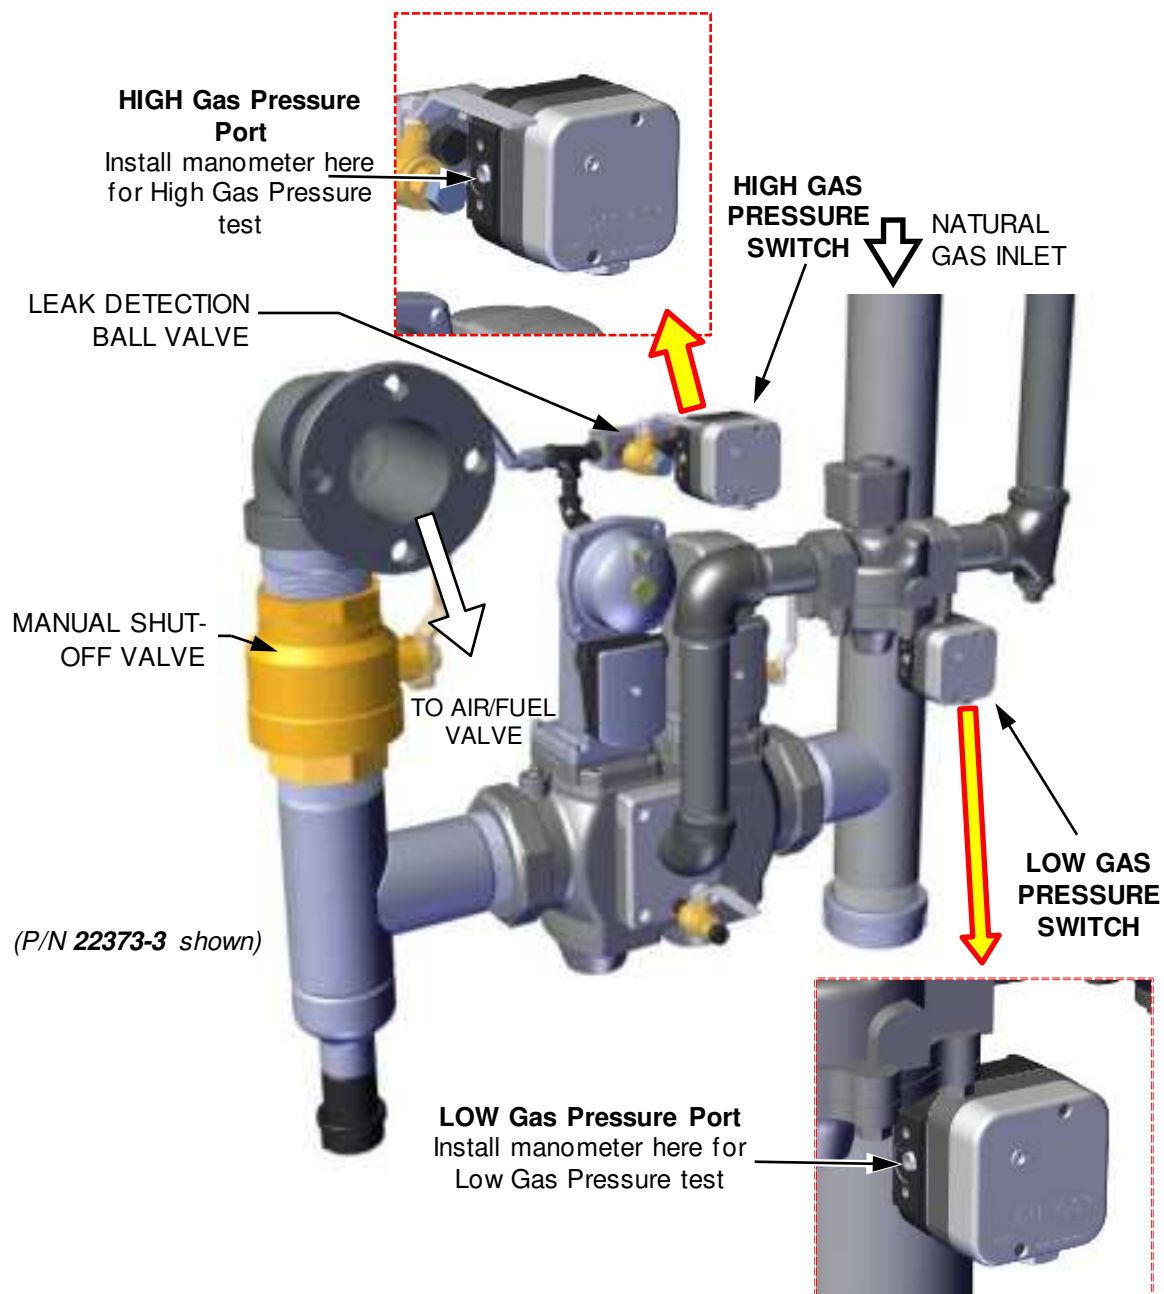

Figure 5-4b: BMK4000/5000N HIGH Gas Pressure Test Components
17. For Dual Fuel gas trains, repeat this procedure on the **Propane** gas train, starting with opening the port on the **Propane** High Gas Pressure Switch, as shown in Figure 5-4b.